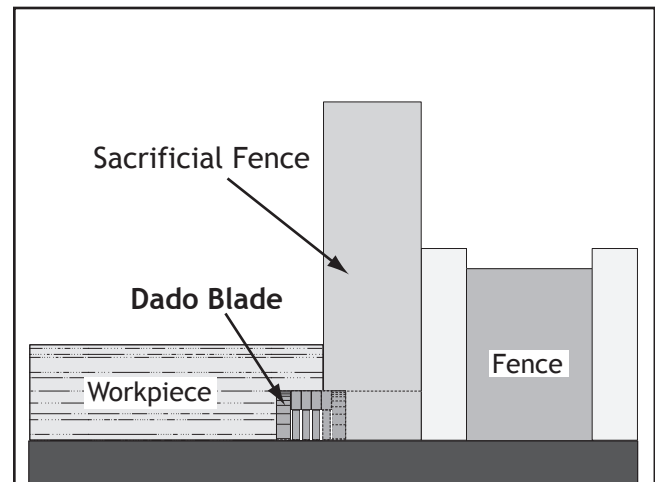

Figure 62. Rabbet cutting.
3. Adjust fence and align workpiece to perform cutting operation, as shown in **Figure 62**.